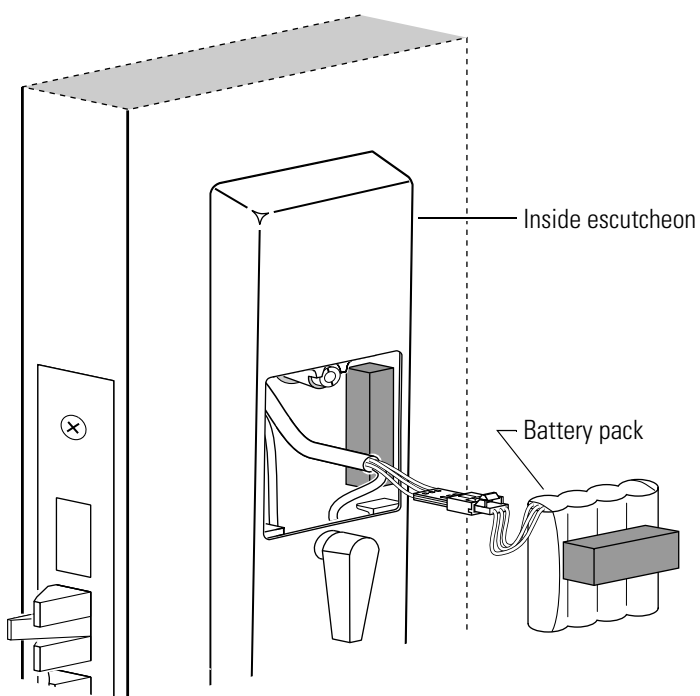

Figure 11.4 Removing the battery pack (four-cell pack shown)
4. Disconnect the battery pack from the battery connector on the wire harness. See Figure 11.4.